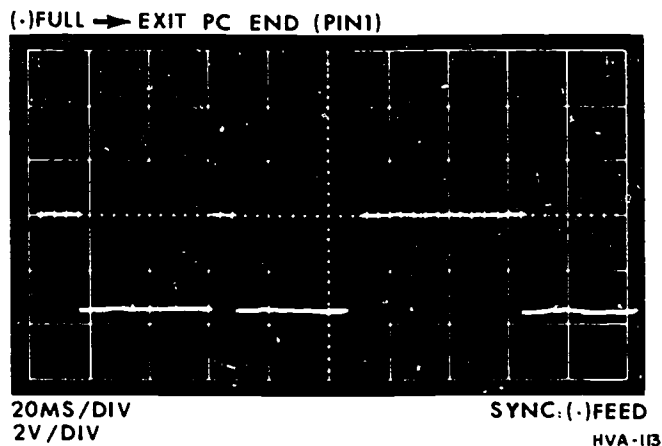
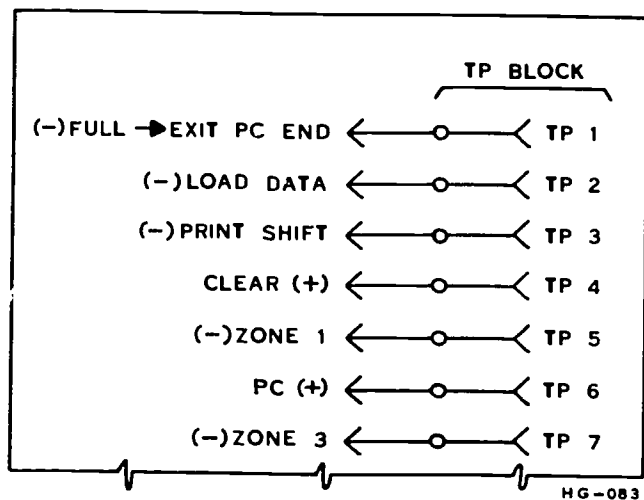

Figure 6-17. Partial oscillograph face with view of feed returns.
Figure 6-18. Part 1 listing of test points for oscilloscope.
Figure 6-17 is another illustration of an oscilloscope signal (oscillograph). In this case, a sine wave is not clearly evident. The three lines (pulse pictures) in the center of the screen are on the base line and the lower three lines are the
result of applying negative input signals to an electronic circuit. The signal is picked up by connecting leads of the oscilloscope to equipment test points. From each test point, you should go to a subsequent test point and look for its signal. Again, you compare the signal which you see to a signal illustrated in a manual for the equipment. Figure 6-18 is a portion of a page of an equipment manual showing test points (TP). This page is used in conjunction with oscilloscope signals which should be noted during your test. By comparing the information to the left of the arrow from TP 1 on figure 6-18 with the information above the block of figure 6-17, you can see that both read, “(-) full exit print cycle end.” On figure 6-18, you can see two test points that have positive input signals, TP 4 and TP 6; the remainder are negative input signals.
2. Comparing the signals of figure 6-17, which is the most positive signal(s)?